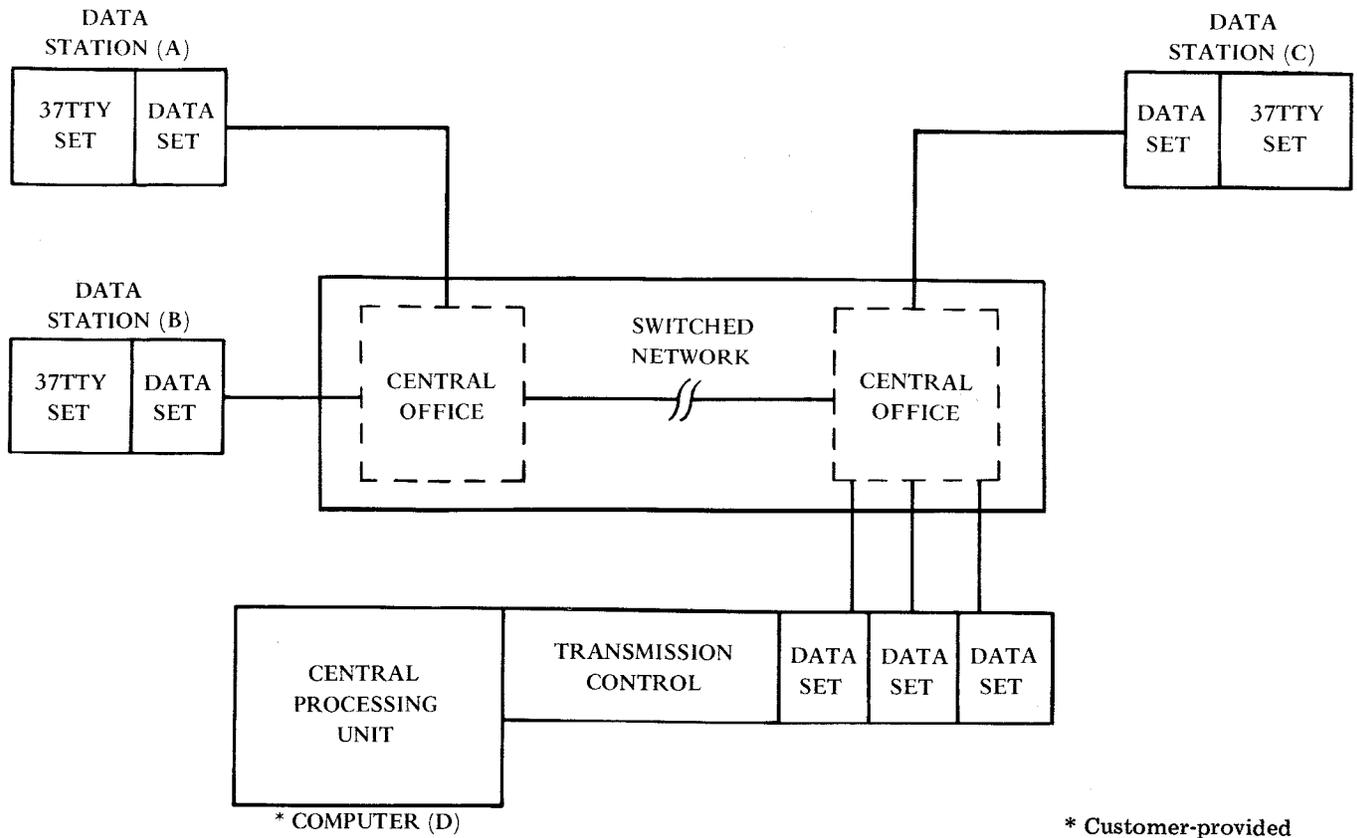

Figure 2 - Switched Network Application Using 37 Teletypewriter Equipment
1.06 Figure 2 is a block diagram illustrating the use of 37 TTY equipment in a switched network application. It should help in understanding the overall capabilities of a 37 TTY set.